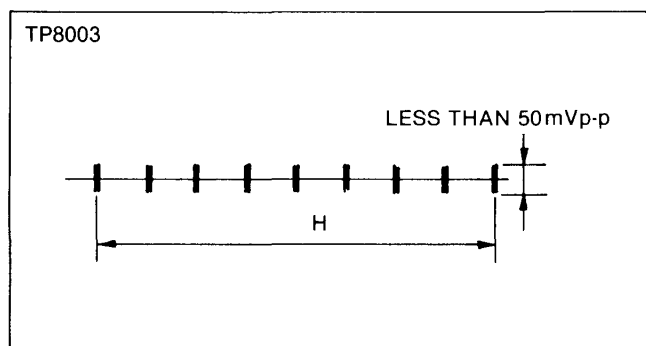

Figure E15
4. Adjust VR8003 so that the carrier leakage is minimized (less than 50mVp-p) as shown in Figure E15.